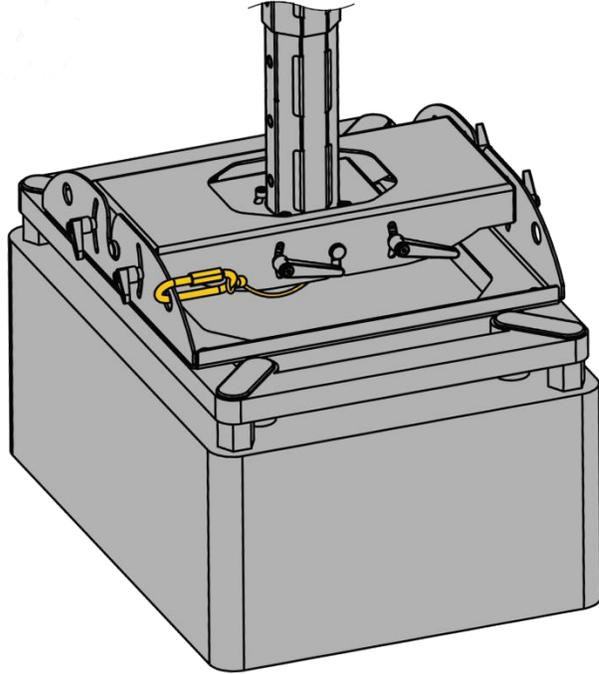

Figure 89:
Step 14: Attach the other end of the safety cable ⑫ to the projector plate ⑥ using a quick link, as shown in **Figure 89**.